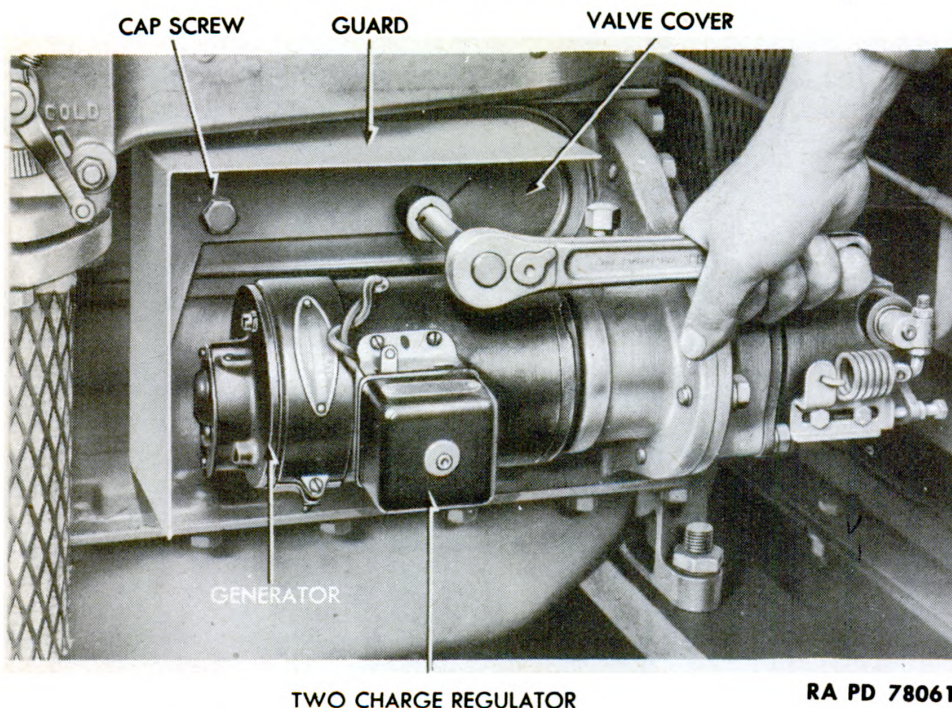
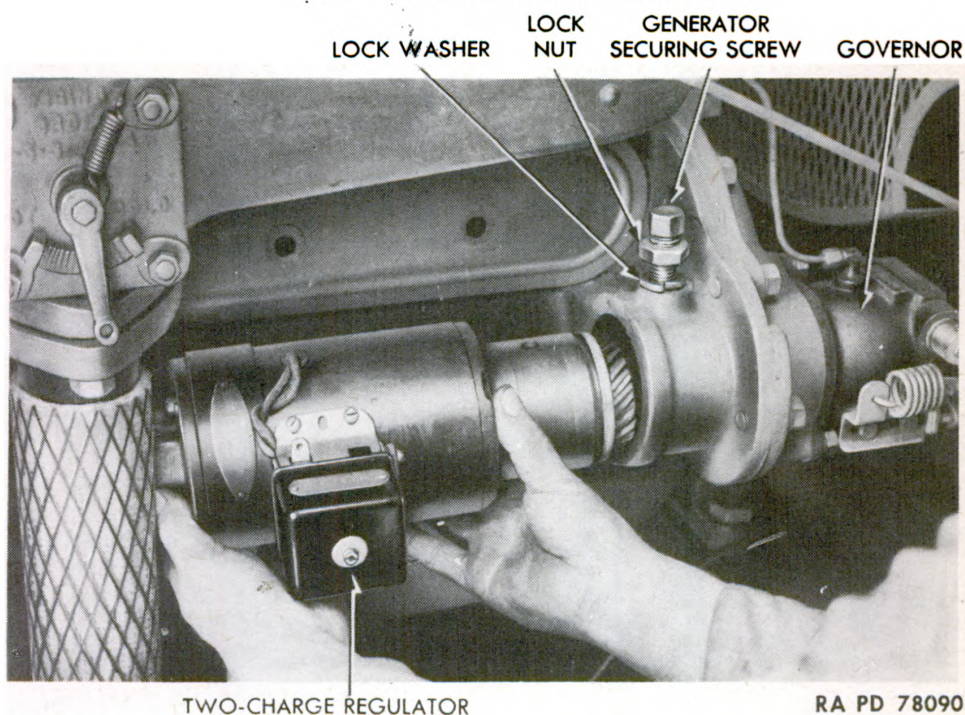

Figure 53 — Battery-charging Generator Guard Removal
Figure 54 – Battery-charging Generator Removal
hand side of the unit, opposite the instrument panel; a 12-volt battery-charging generator (fig. 53), on the right side of the unit under the manifold; two 12-volt starting motors (fig. 63), one on the left and the other on the right side of the engine, projecting through the bell housing; a distributor (fig. 56) mounted on the accessory drive; an ignition coil (fig. 14) bolted to the left side of the engine head; and the spark plugs. An ignition switch and a battery-charging generator ammeter are located on the instrument panel. The starter switch (fig. 13) is mounted on a bracket above the left starting motor. Two slave terminals (fig. 13) are provided on this bracket to facilitate connecting additional batteries to the unit when required.
- (1) Unscrew cap screws securing generator guard and valve cover to engine block (fig. 53).
- (2) Remove screw attaching wire to 2-charge regulator terminal.
- (3) Loosen lock nut on generator securing screw that goes through generator housing to secure generator in place. Loosen generator securing screw until it is entirely clear of generator and lift out generator (fig. 54).
- (1) Place generator into housing so that its gear meshes with camshaft timing gear, and 2-charge regulator faces opposite engine cylinder block (fig. 54).
- (2) Turn down on generator securing screw until tight and lock with lock washer (fig. 54). **NOTE:** Generator securing screw must enter dowel hole in generator body to secure generator in position properly. When turning down on generator securing screw, slightly rotate generator until screw is felt entering dowel hole.
- (3) Attach wire to 2-charge regulator terminal with screw and lock washer.
- (4) Install generator guard and valve cover and secure with two cap screws (fig. 53).